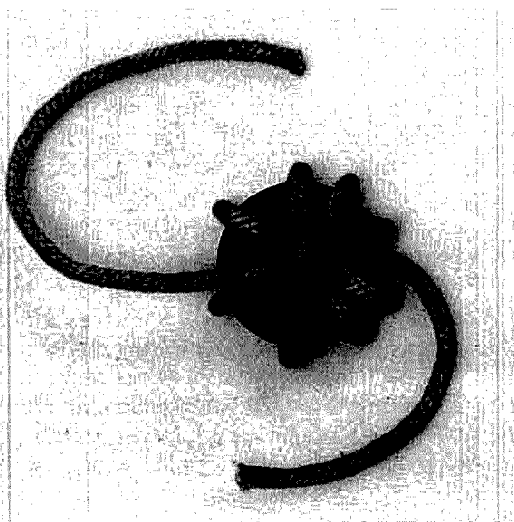

fig. 2. A toroidal core wound with a super toroid winding. This core is wound with clothes line to make it show up better in the photograph.
T.A.O. Gross,10 primarily as a means of reducing stray pickup from external fields, but was introduced to the Amateur community only recently by Reisert.7 With the super toroid, one-half the circumference of the toroid is wound in the usual manner. The winding is then taken across the diameter of the core and the last half wound in the opposite direction, as shown in fig. 2. The advantage of this type of winding for balun application is that the ends of the winding, where the voltage is the highest, are at opposite sides of the core where the capacitance is minimum.